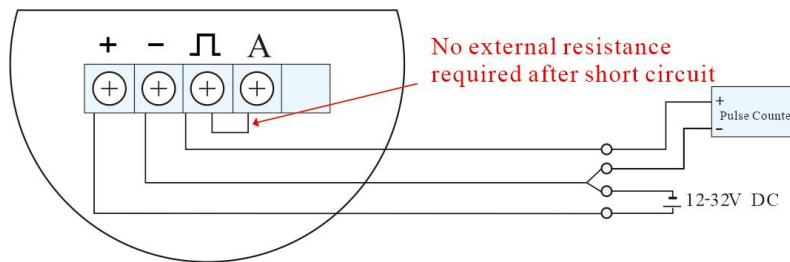

Fig. 12
2. Connect to external power supply DC12V~32V, pulse output (Fig. 12)